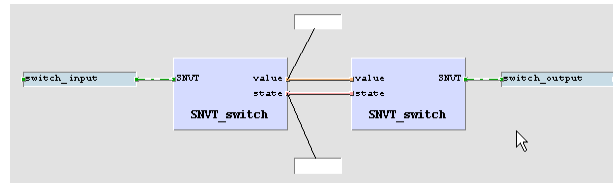

Figure 27: Online Test fields
- Place the fields above and below the drawing as shown in Figure 27, then press the **Save** button to save your changes.